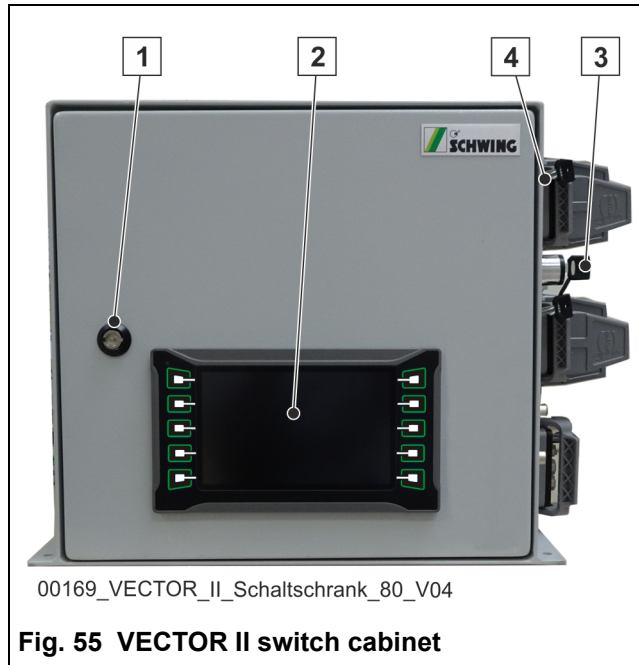

Fig. 55 VECTOR II switch cabinet
Events are reported acoustically and indicated on the display (2) (**Fig. 55**).